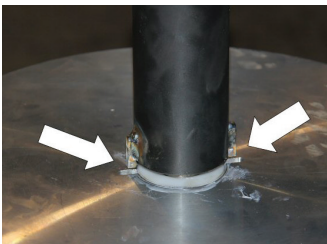

Figure G-2
**G.4)** Place the head of the insertion tool over the valve stem protruding from the top of the valve cartridge and align the square pegs on the insertion tool head with the slot in the completion plug on the top of the valve cartridge (see Figure G-2).